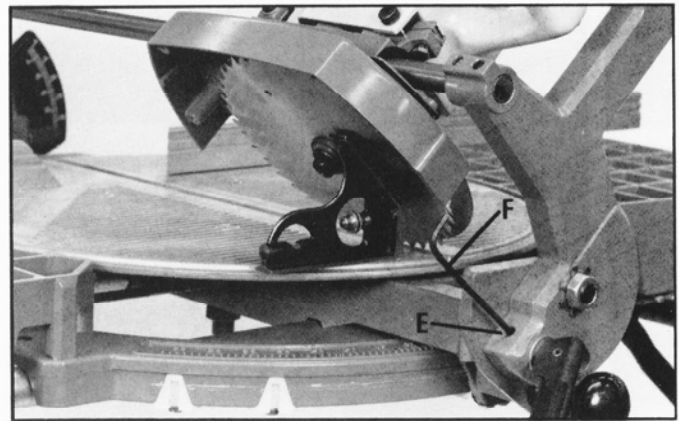

Fig. 33
7. Move the cuttinghead to the front of the table and using a square check to see if the blade is at 45 degrees to the table, as shown in Fig. 33. If an adjustment is necessary, tighten or loosen screw (E) with wrench (F) Fig. 33, until the blade is at 45 degrees to the table.